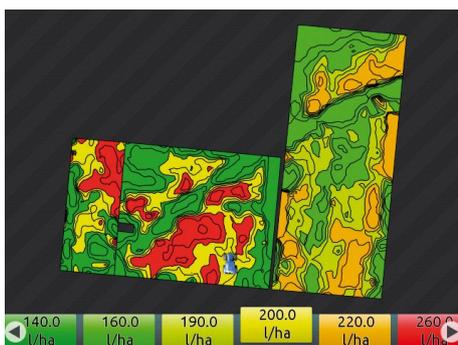

Fig. 270
- Proceed with the spraying. According to the position detected by the GPS receiver, the monitor will use the appropriate spray rate for the area that is being sprayed (Fig. 270).